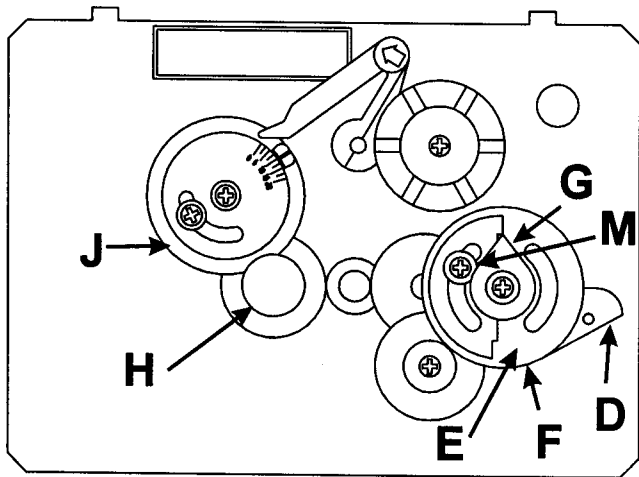

FIG. 8
The timer is factory-set to recharge at 2:00 a.m. (plus or minus 20 minutes), a timer when water usage is at a minimum for most families. If water is used during recharge, hard water will be automatically bypassed to service. If it would be more convenient to have the water conditioner recharge at a different time of day the setting may be changed as follows, referring to Fig. 8.
Upon completing the installation, the timer must be set to the correct time of day. Time of day must also be reset after any kind of power interruption, such as that caused by an electrical storm. See Fig. 8.
The timer assembly is in the service position when the toothless notch in the cam gear (J) is over the teeth on the idler gear (H). The timer will return to this position after each recharge (Fig. 8).